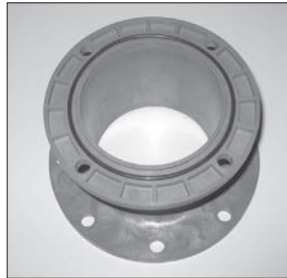

Figure 29
1. Place motor adapter (item 15) so the large flange is on the bench. Rotate the adapter so the four holes in the smaller flange are in the horizontal position. See figure 29. If removed, reinstall the o-ring (item 14) in the groove on the face of the motor adapter.
Lubricate the o-ring with chemically compatible lubricant. This will help to hold it in place. See figure 29.